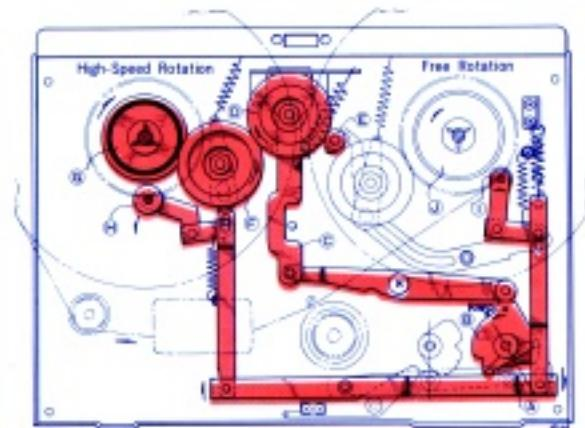

Fig. 4
Turning the *FAST FWD-REWIND* knob (A) to "REWIND" position, causes *cam* (B) under the knob to push up *Lever* (C). *Idler* (D) moves into the space between the upper part of the rotating *Motor drive bushing* (E) and the *Intermediate Pulley* (F) to transmit the high-speed rotation of the motor through the intermediate pulley to *Supply Reel Spindle* (G). At the same time, *Brake Rollers* (H) and (I) come off the reel spindle to free *take-up reel spindles* (J) and (G), thereby rewinding the tape onto the supply reel at a fast speed. (See figure 4)